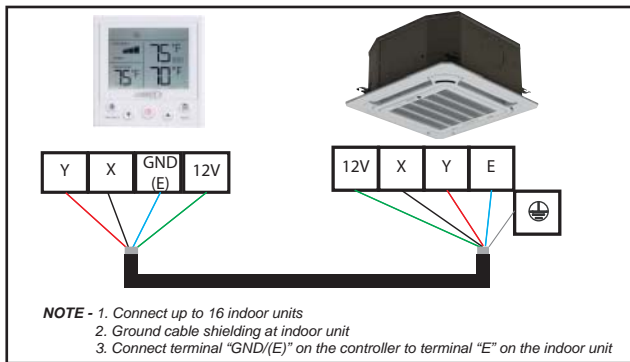

Figure 4. Wire to One Indoor Unit
- Connect the controller to one or more indoor units, up to 16. Use 4-conductor shielded cable to connect to the first indoor unit. **NOTE** - Wiring is polarity sensitive. See Figure 4.